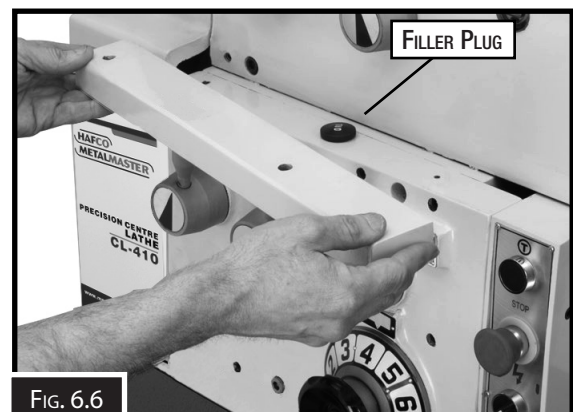

FIG. 6.6
3. Replace the drain plug and fill the gearbox with new oil so that the oil level is halfway up the oil sight glass. The filler plug can be found by removing the cover plate above the gearbox. (See Fig. 6.6)